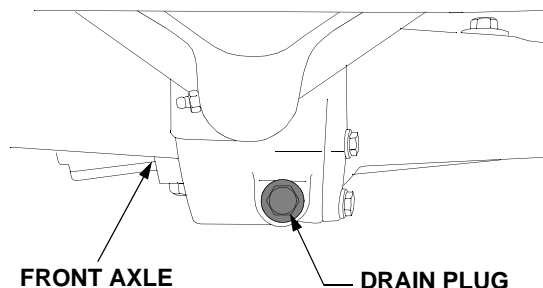

Figure 48
- To prevent debris from entering the front axle housing, clean the area around the oil fill plug/dipstick and the axle drain plug located at the center front of the axle. Refer to Figure 46 and Figure 48.
- Remove the oil fill plug/dipstick to help vent the axle, then remove the drain plug and allow the oil to drain into the container. Reinstall the drain plug after draining the oil. See Figure 48.